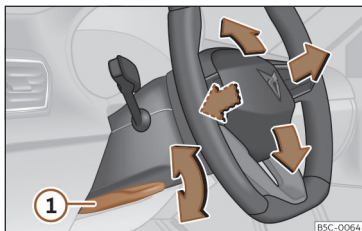

Fig. 66 Lever in the lower left side of the steering column.
- Pull lever >>> Fig. 66 ① down, move the steering wheel to the desired position and lift the lever back up until it locks.
- After adjusting the steering column, push lever >>> Fig. 66 ① firmly upwards so that the steering wheel does not accidentally change position while driving.